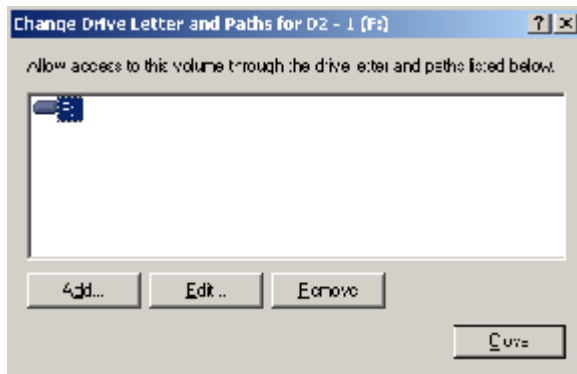

Figure 59: Change Drive Letter and Paths dialog box
The Change Drive Letter dialog box appears, similar to Figure 59.
6. Click **Remove** (as shown in Figure 59).